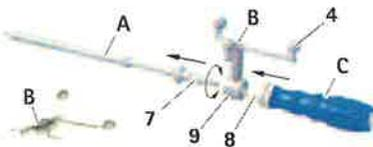

Fig. 4 Mounting the IGS Tool Star Unit and S4C handle onto the S4C screw tap
- Release locking sleeve **8**, see Fig. 4.